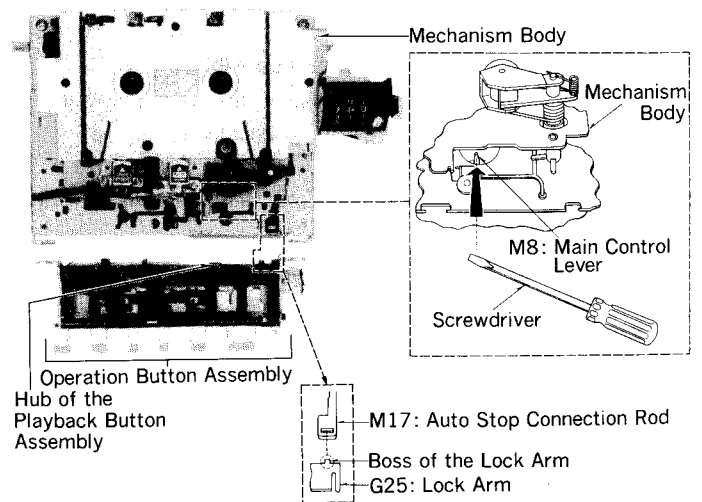

Fig. 20
1. Before mounting the operation button assembly on the mechanism body, be sure to lift the main control lever in the direction of the arrow using a screwdriver, as shown in fig. 20, until it locks in place. If it is not mounted in this manner, the hub of the playback button assembly during playback catches on the main control lever, making it impossible to release playback mode.
2. Check to be sure that the boss of the lock arm and auto stop connection rod are in the correct position, as shown in fig. 20.